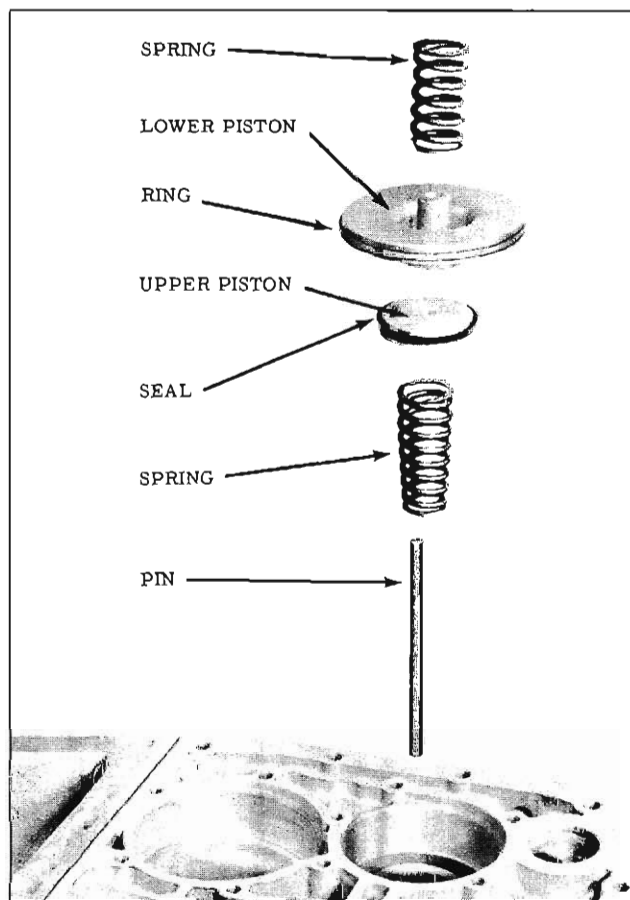

Fig. 6-116 Accumulator Installation
1. Install accumulator pin into case. (Fig. 6-116)